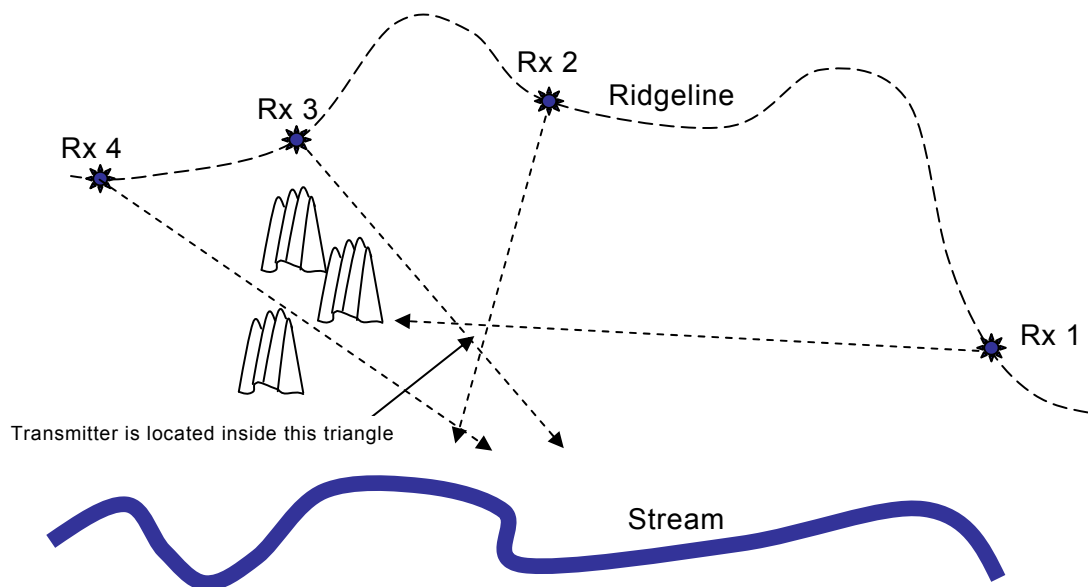

Figure 2. Diagram of the triangulation process—locating the target from a series of compass bearings.
2. Draw a line on a map (or Geographic Information System (GIS)) from where you are standing (at a known GPS point) to where the strongest signal is coming from (see Fig. 2).
To further explain how the triangulation process works, see Table 1 (an example of a field notebook entry) and Fig. 2 (a map of the results).
From Fig. 2 it can be seen that the transmitter is located within the triangle that has been created by the compass bearings. However, it should also be noted that the bearing taken from location Rx 4 was well wide of the triangle created from listening at the other locations. This happens from time to time, due to reflection, refraction or absorption (see section 2.1—‘Radio waves—reflect, refract, absorb’)—and in this particular example can be explained by the main signal being shielded from Rx 4 by the rock outcrops below Rx 3, which have absorbed and/or scattered the signal, and reflected part of the signal back up to Rx 4.